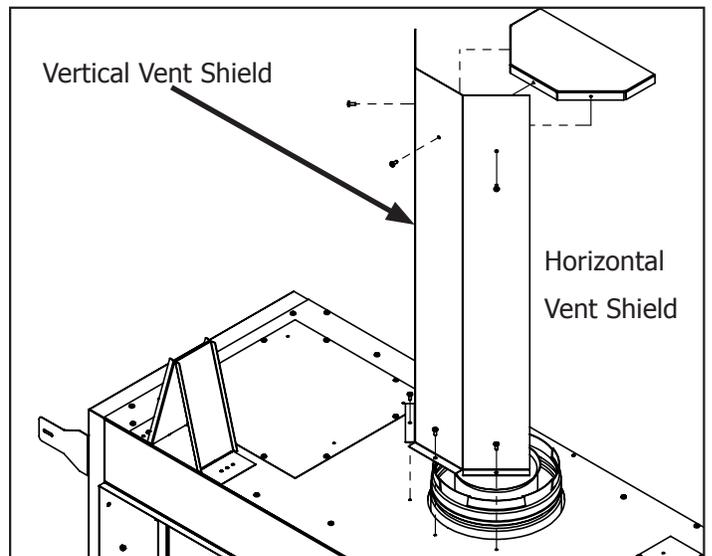

Figure 33. Vent Shielding Install
**IMPORTANT:** All installations must include the vertical vent shield. The horizontal vent shield is only installed if the fireplace is horizontally terminated with the minimum vertical rise of 24". If more than 24" of vertical rise is used in the vent configuration no horizontal shield is needed. See Figure 33 for shield install. Screws are pre-installed in cabinet and horizontal vent shield. Use a T-20 screwdriver or drill driver to remove screws then install shields.